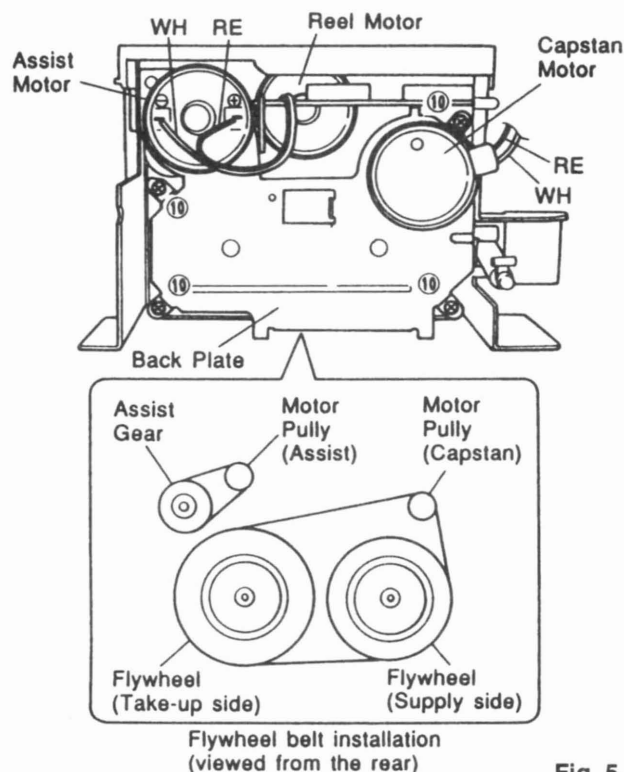

Fig. 5
- Remove 4 screws (⑩) in Fig. 5 and then remove the Back Plate.